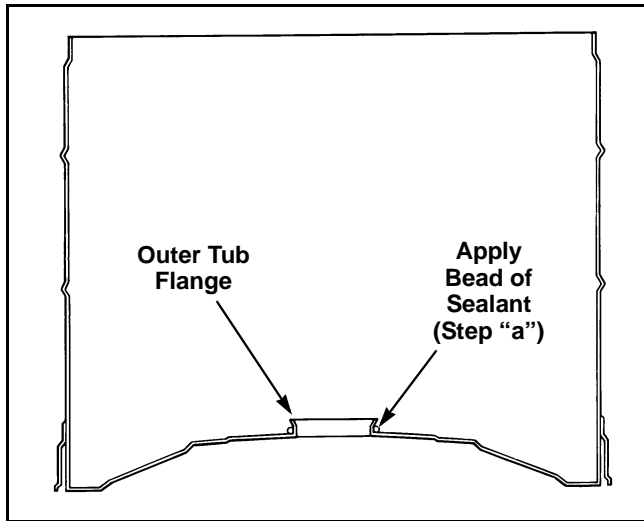

Figure 41
- a. Apply a small amount of No. 27615P Sealant, (supplied in kit) around the outer surface of the tub flange. Refer to *Figure 41*.